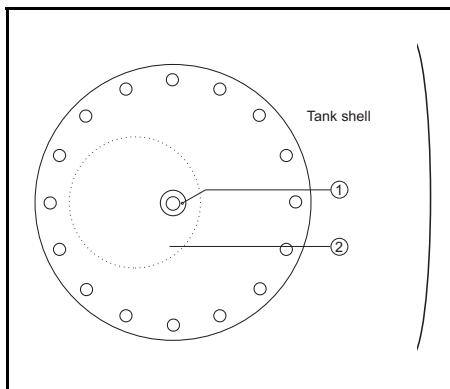

Figure 7.8 Position of antenna on manhole cover
- 3) The position of the Antenna Unit is indicated by line 2 in figure 7.8.